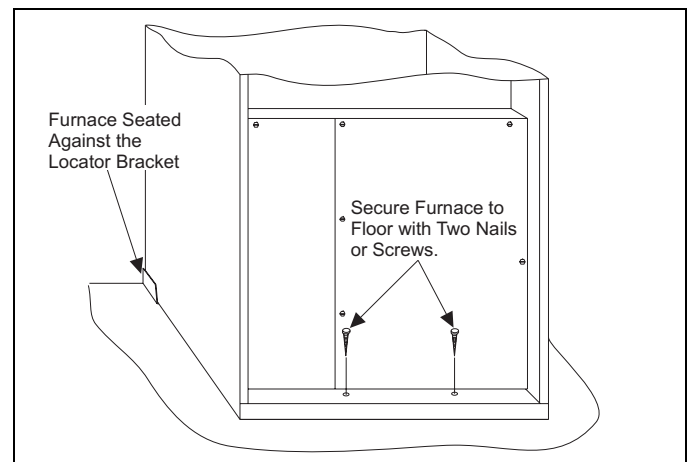

FIGURE 13: Installation of Furnace
2. Secure the front of the furnace with two screws at the mounting holes provided. See Figure 13.